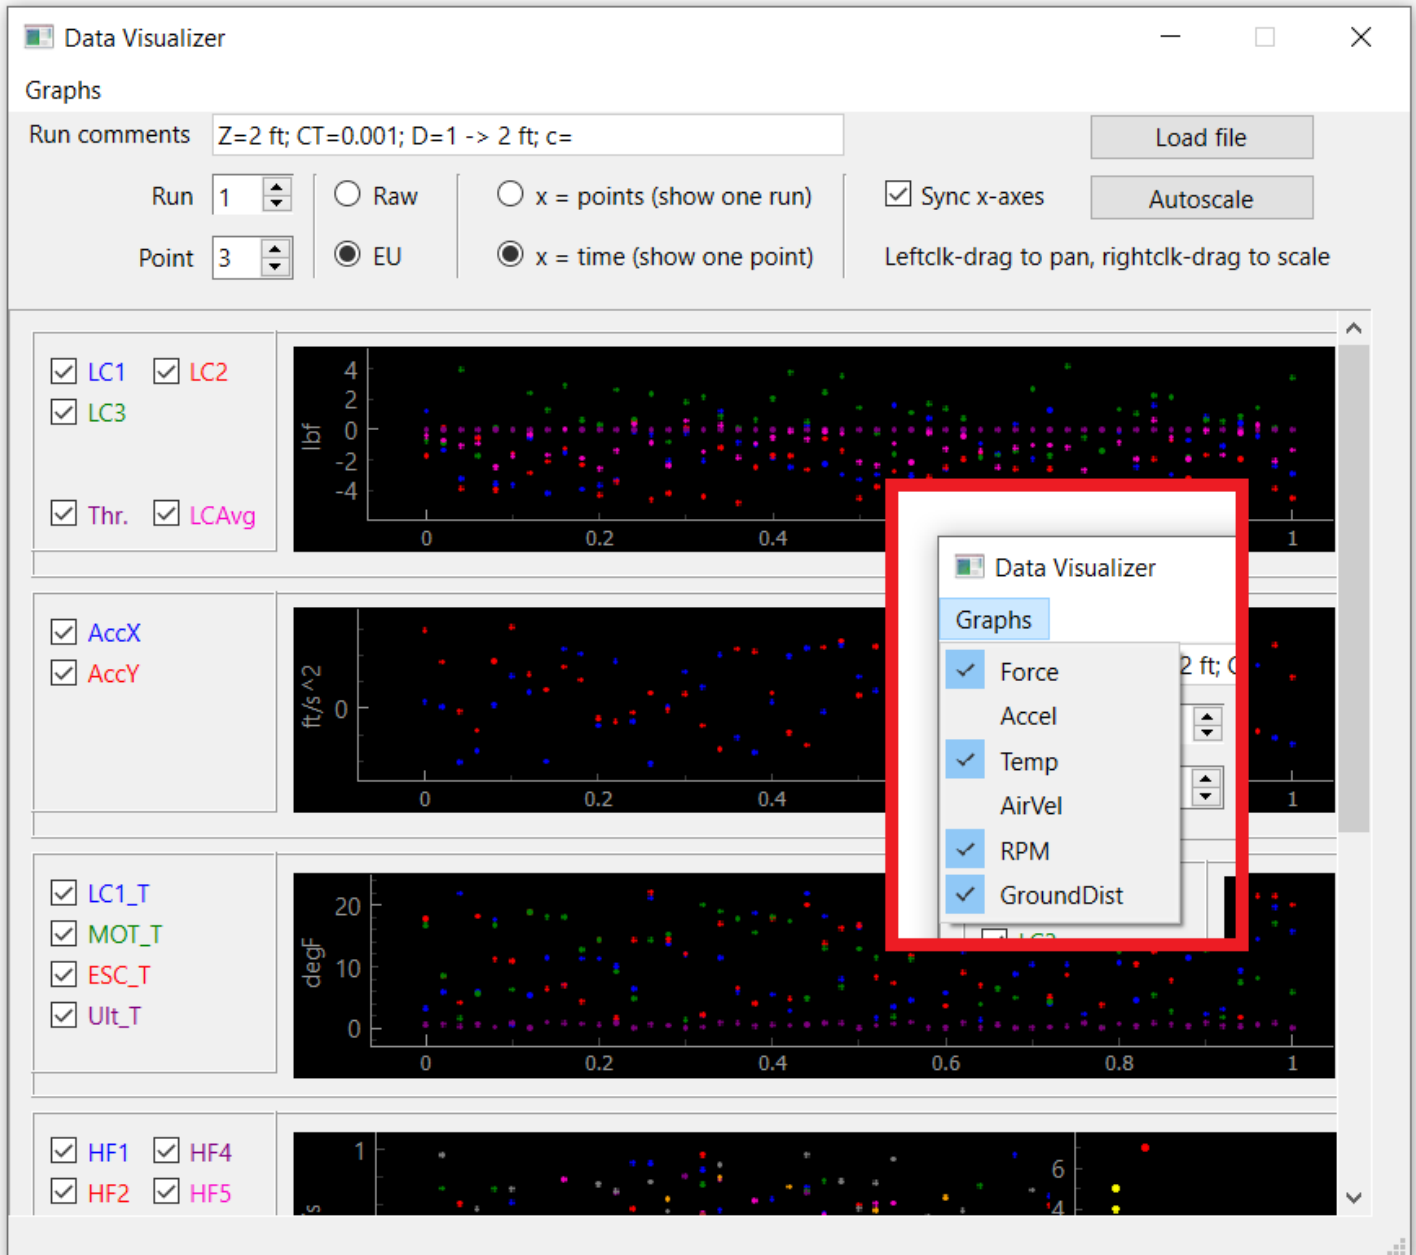

Fig. 10: Data Visualizer Window, inset is graph selection drop-down
The Data Visualizer window (Fig. 10) lets the user view plots of collected data. Collected data stored in the default directory can be automatically accessed, and data elsewhere can be loaded via the 'Load file' button. If the data is automatically accessed by its run and point, the run's comment (if present) will be shown in the 'Run comments' box. Data can be toggled between raw and engineering units (EU) by clicking the respective box on the left. Additionally, either each point in a run or each data point in a point can be displayed by selecting either 'x = points' or 'x = time'. Enabling 'Sync x-axes' causes all graphs' x-axes to move in unison whenever any graph is panned. Specific channels can be enabled or disabled by toggling their checkboxes on the left of each graph. Clicking 'Autoscale' zooms each graph into the data it is currently displaying, according to which channels are shown or hidden. Entire graphs can be shown or hidden via the top-left dropdown menu. Note that no data can be modified in this window, only viewed.